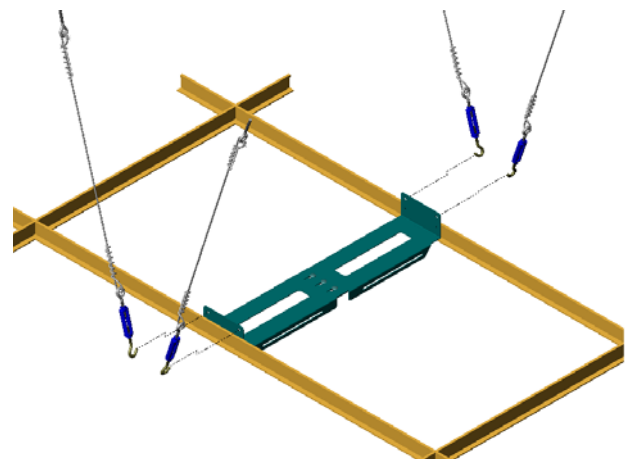

Figure 8. Anchoring
WARNING: Make sure the tie wire will not become loose. Thread the end of the wire back through the first loop, closest to the eyebolt, and bend the end of the wire up to prevent the wire from untwisting (see Figure 8).
2. Insert the wires through the ends of the turnbuckles. Twist each wire around itself at least four times, then thread the wire back through the loop closest to the eyebolt (see Figure 8).